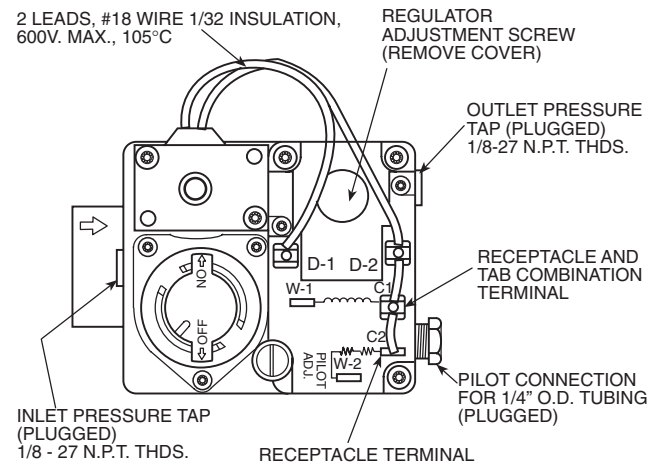

Fig. 40 — Gas Valve (Part Number EF33CB271)
6. Remove screw cap covering regulator adjustment screw (See Fig. 40).